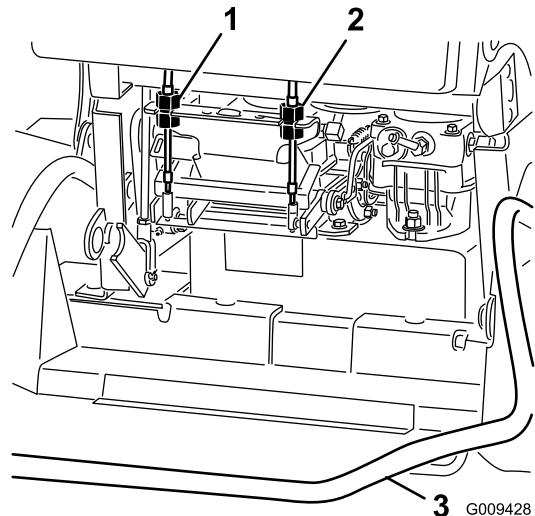

Figure 53
4. Rotate the thumb adjustment on the side of the machine that it tracks to (as viewed from the rear of the machine)(Figure 53).